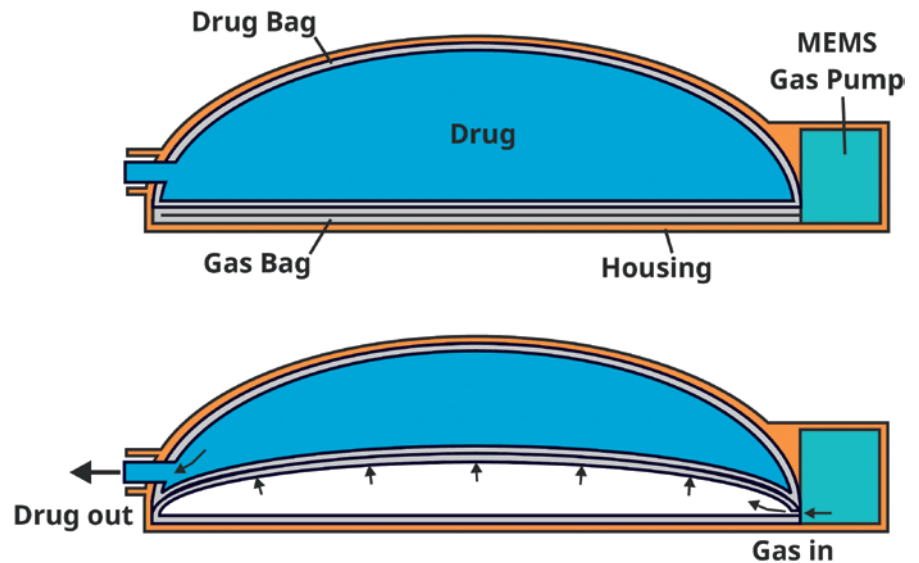

Figure 1: Dual-bag OBI schematics with working principles.
- **Dual-Bag Actuation Approach:** As illustrated in Figure 1, two flexible bags (similar to IV bags except for the shape) are constrained inside a half-dome-shaped shell. The MEMS-enabled pneumatic pump pumps gas into the first bag, transferring the pressure to the second, drug-filled bag to initiate the delivery process. The drug can be manually transferred from a vial or syringe through a vial adaptor or a Luer-lock connector to the bag.